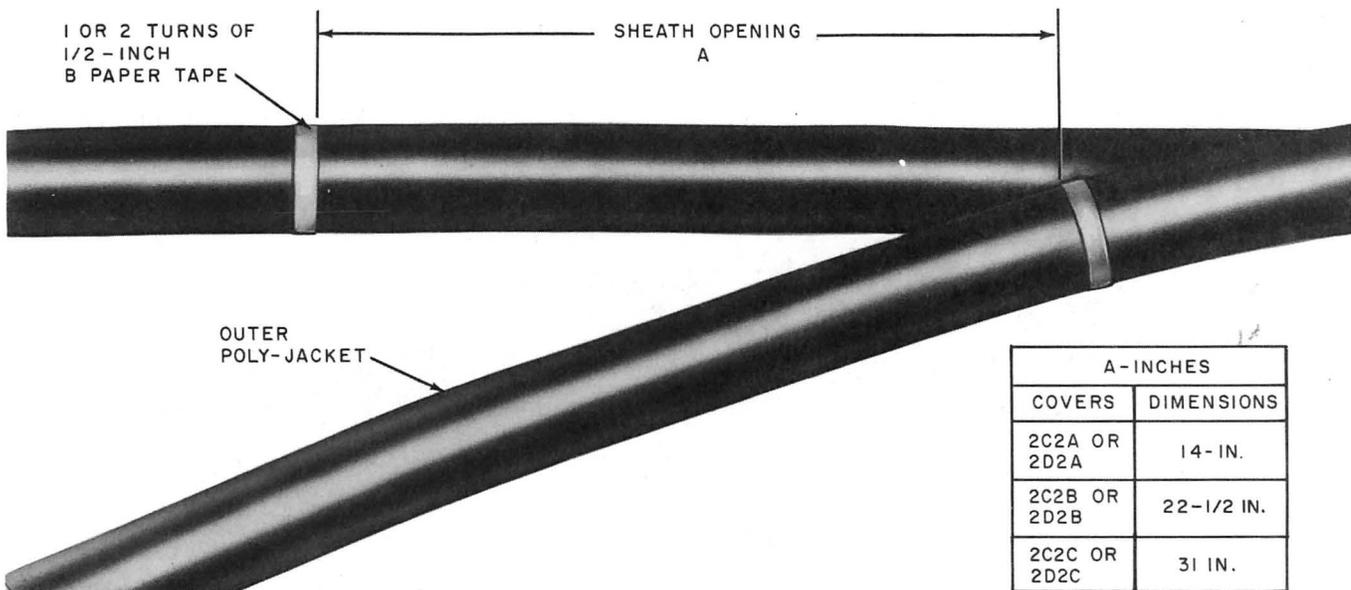

Fig. 2—Cables Marked for Sheath Opening
3.01 Mark the cable sheath with B paper tape as shown in Fig. 2.